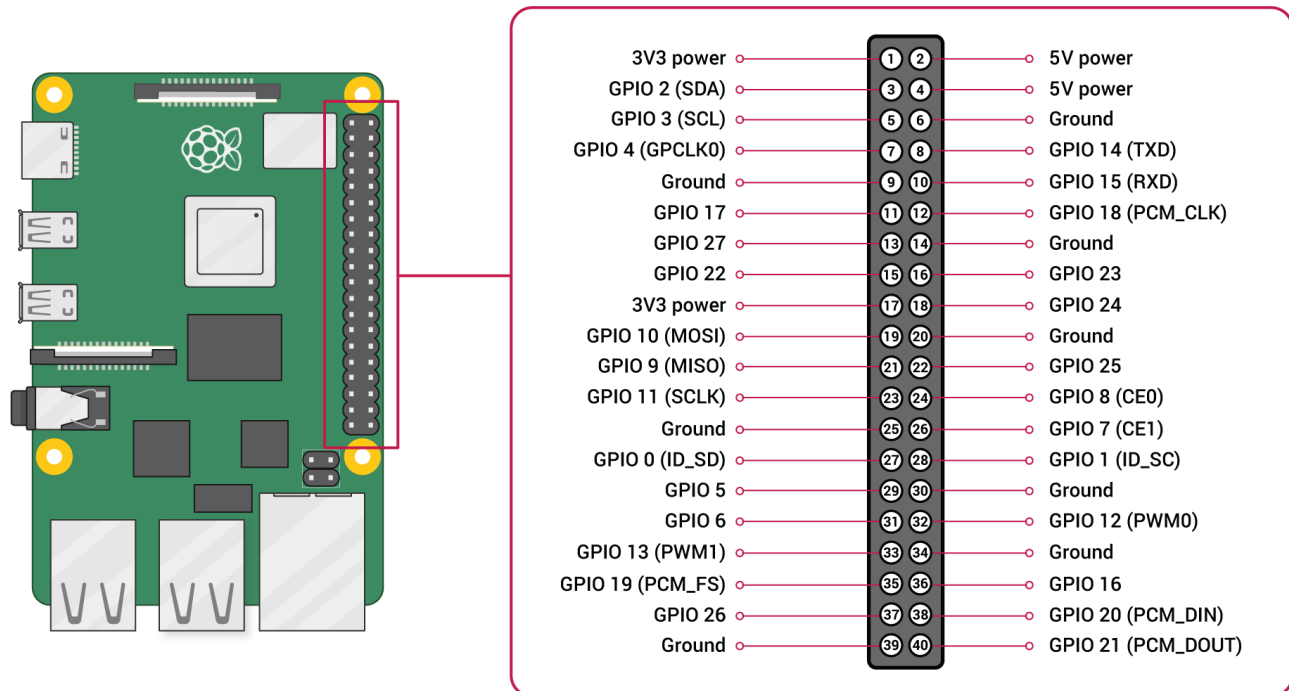

Figure 2: GPIO pin configuration and numbering, *Credit: Raspberry Pi Ltd, CC BY-SA 4.0*
- Connect the LED to the RPi as shown in the diagram below (Figure 2)